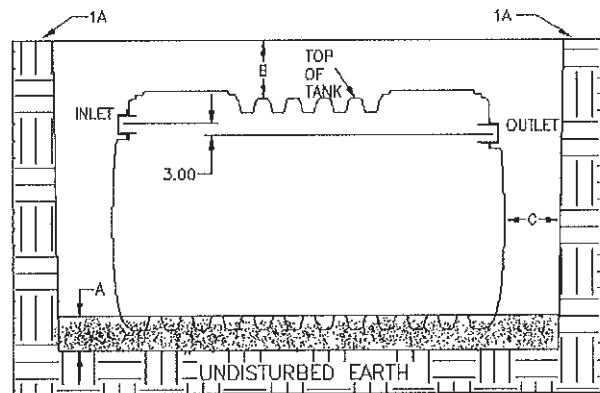

Figure 1: Excavation
1. Excavation (Figure 1)
- Excavate and provide a well-compacted support layer of sand / gravel mixture so that dim. (A) is min. of 6" for soil terrain and 12" for rock terrain.
- Allow dim. (B) to be a min. of 8" and a max. of 36".